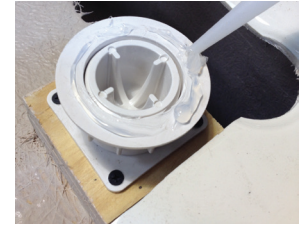

Figure 2A
8. Apply a small bead of silicone to leveling feet to prevent lateral movement or shifting of tub inside of tub surround. (figure 2A)